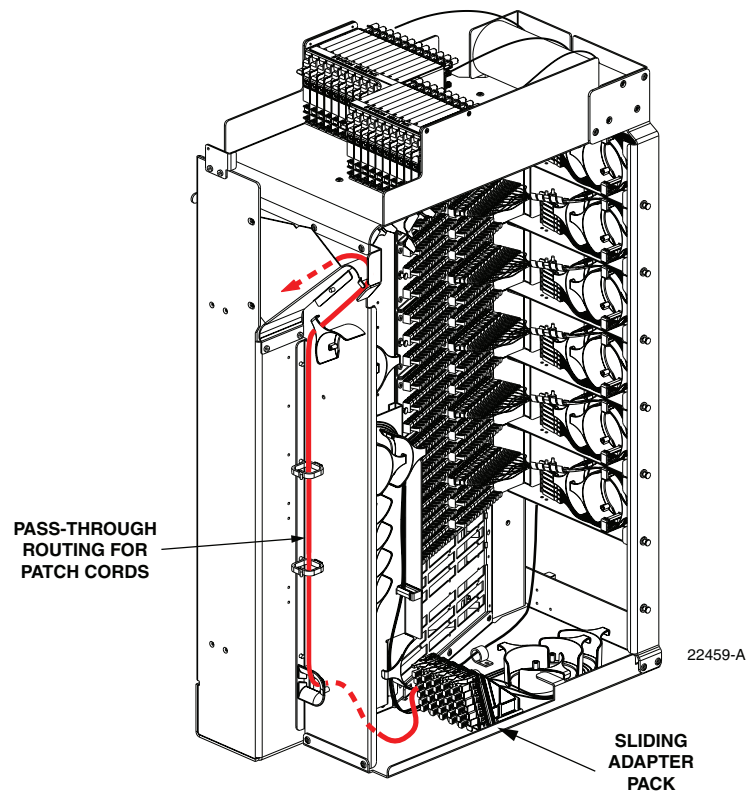

Figure 45. Routing Pass-Through Patch Cord From Sliding Adapter Pack
10. Route the pass-through patch cord to the front side of the swing-out assembly as shown in Figure 45.